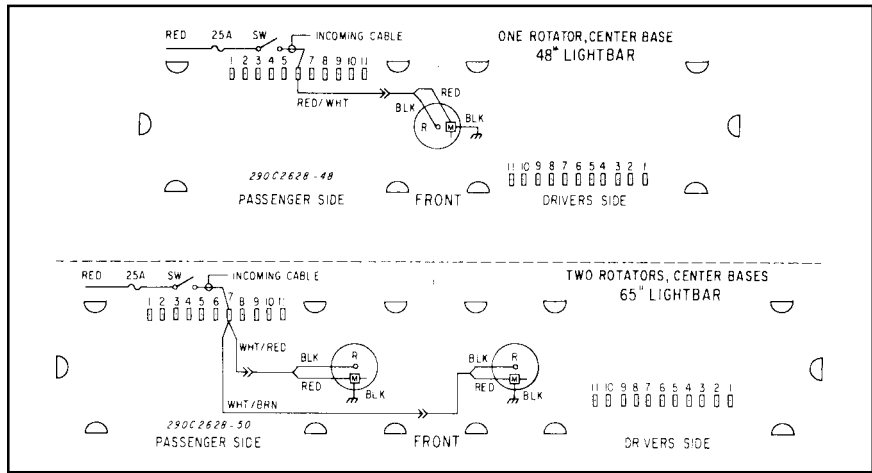

Figure 6.
- 2. See the applicable wiring diagram in figure 6. Attach the female terminal on the rotating light assembly’s red and black wires to the male terminal on the appropriate wire in the lightbar’s wiring harness as shown in figure 6. Attach the other end of the wire to the appropriate terminal of the molded-in terminal strip.